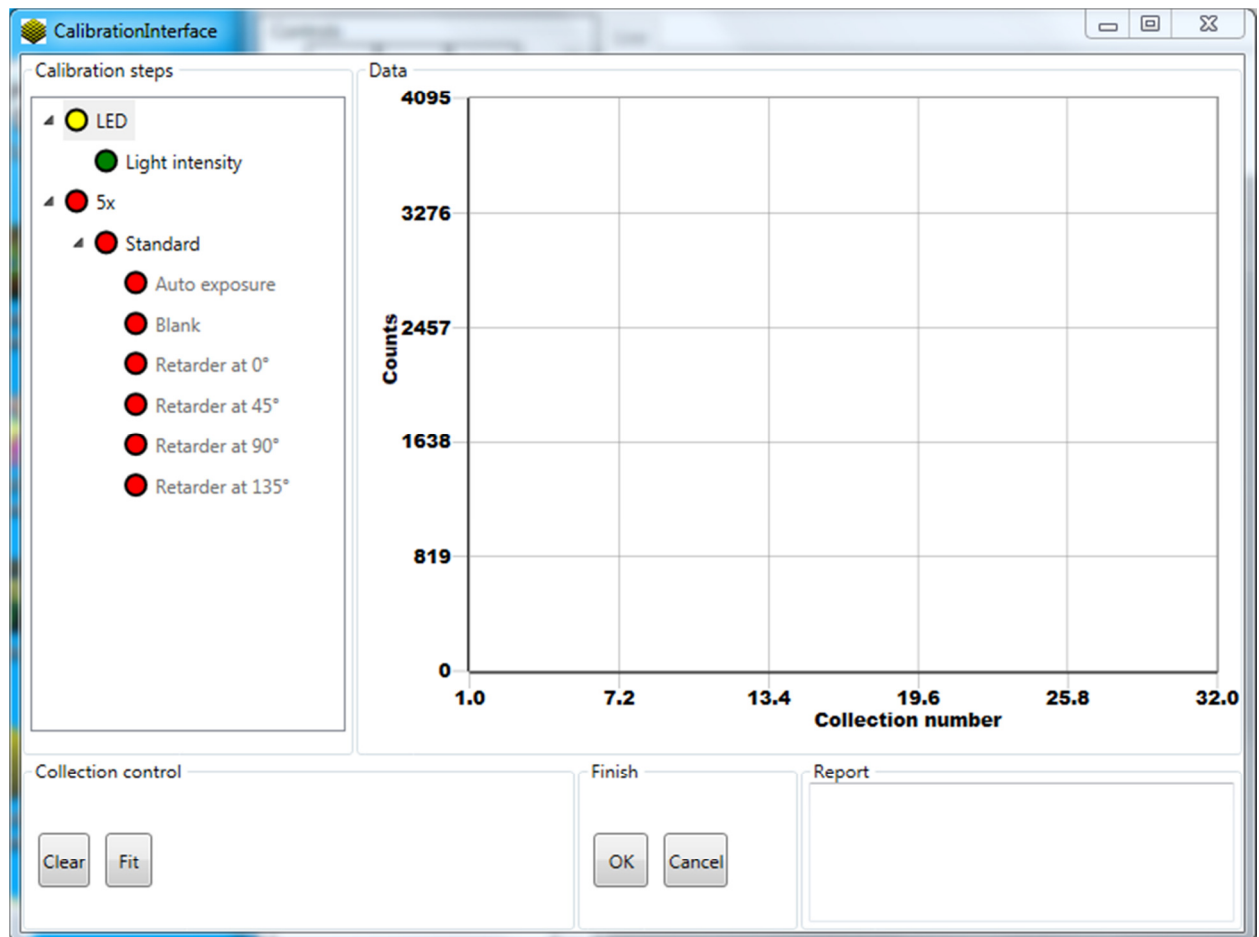

Figure 23.
- The software will run through a procedure and you will see results graphing to the side. When the software stops, click on the words “LED.” You should see a window similar to Figure 23.